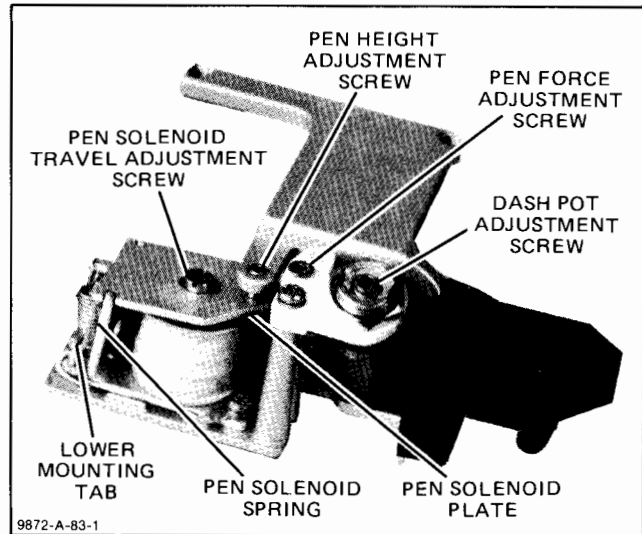

Figure 3-5. Pen Holder Adjustments
- c. Set the pen height adjustment screw until the pen tip is 2.3 mm (0.09 in.) above the platen. Refer to Figure 3-5 for the adjustment location.
- c. Using a 0-30 gram gauge, adjust the pen force adjustment screw until a force of 23 ± 3 grams is required to just lift the pen tip from the platen. Refer to Figure 3-5 for the adjustment location.
- c. Adjustment is performed by bending the bottom pen solenoid plate spring tab either up or down to adjust as necessary. Refer to Figure 3-5 for adjustment locations.